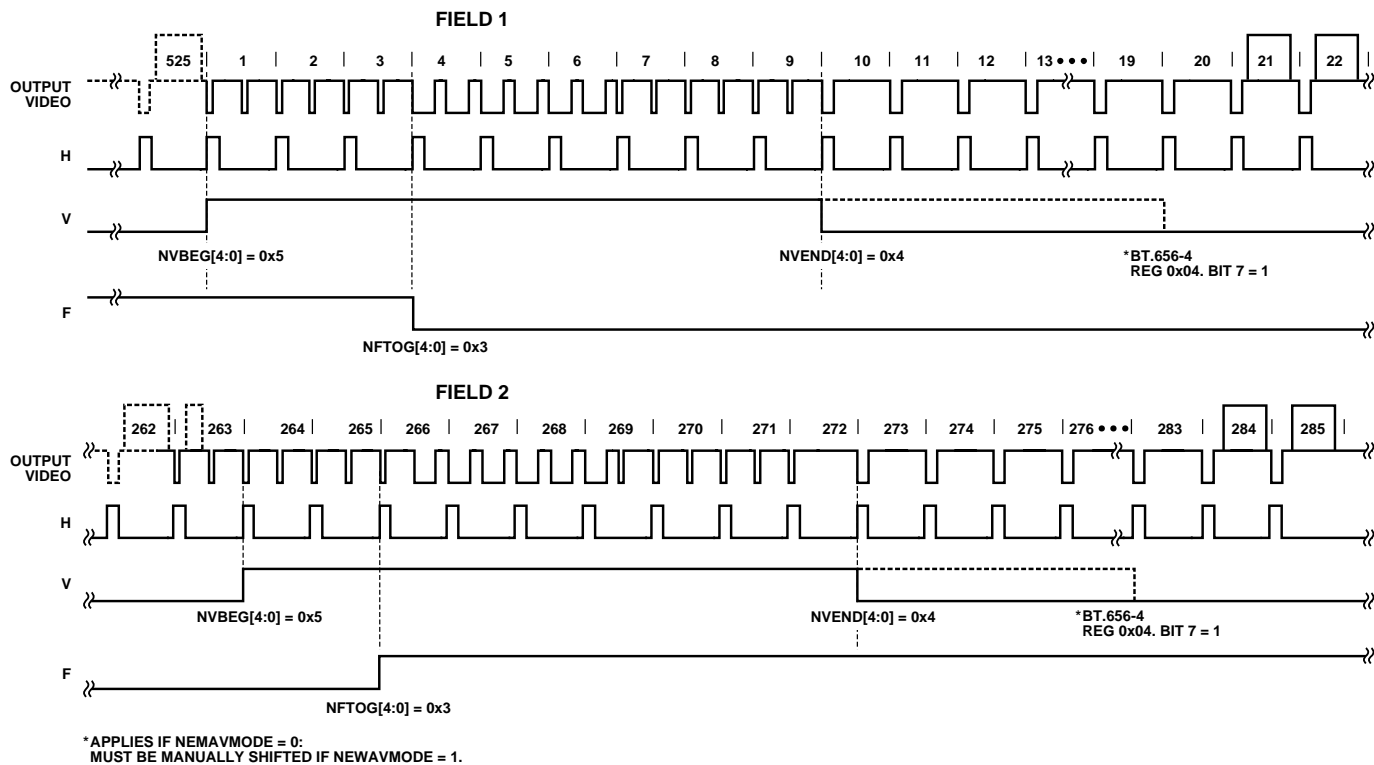
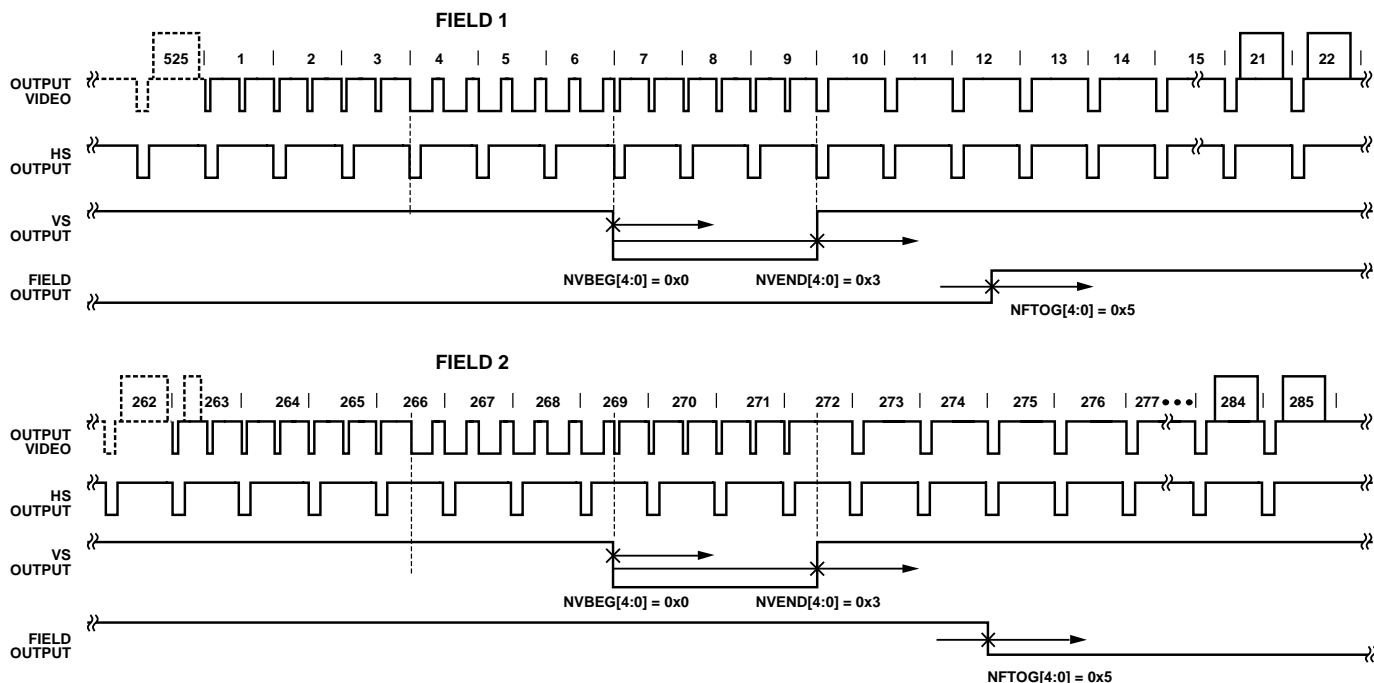

Figure 21. NTSC Default (BT.656). The polarity of H, V, and F is embedded in the data.
Figure 22. NTSC Typical VSync/Field Positions Using Register Writes in Table 55
Setting NEWAVMODE to 1 (default) enables the manual position of the VSYNC, Field, and AV codes using Registers 0x34 to 0x37 and 0xE5 to 0xEA. Default register settings are CCIR656 compliant; see Figure 21 for NTSC and Figure 26 for PAL. For recommended manual user settings, see Table 55 and Figure 22 for NTSC; see Table 56 and Figure 27 for PAL.
**Table 55. Recommended User Settings for NTSC (See Figure 22)**